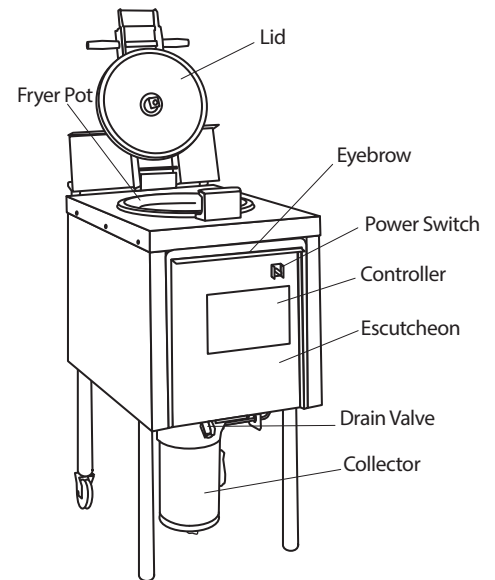

Figure 1
1. Using fryer drain valve, (see Figure 1) drain shortening into metal container or shortening filter and allow fryer to cool.
3. Remove two screws securing the eyebrow (if applicable). Save screws for reuse (see Figure 1).